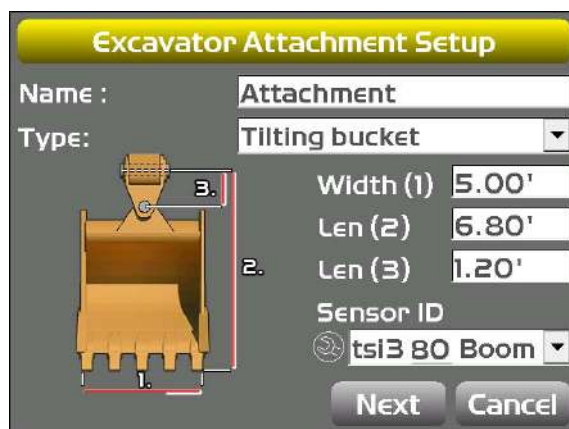

Figure 75: Enter Tilt Bucket Measurements
3. Select **Tilting Bucket** from the drop-down menu, and enter the bucket **Width** and **Length** (Figure 75).
4. Enter a value for the tilt bucket **Length (3)**, and select a **Sensor ID** for the tilt bucket sensor.